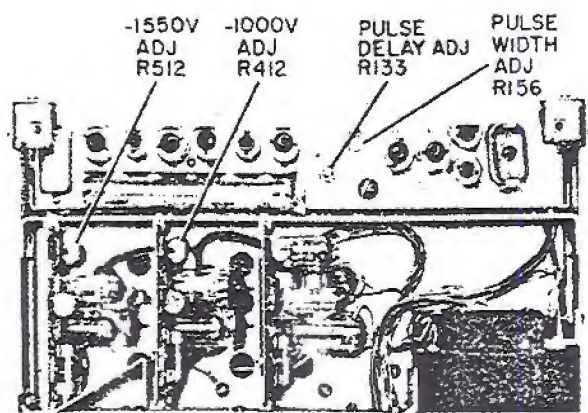

Figure 5-7. Location of Power Supply and Modulator Adjustments
e. Adjust potentiometer R412 (Figure 5-7) for  $-1000 \pm 20$  volts. Line voltage regulation ( $115 \text{ V} \pm 10\%$ ) should hold the  $-1000 \text{ V}$  supply to within  $\pm 5 \text{ V}$ ; ripple should be less than 10 mV, p-p. The  $-300 \text{ V}$  supply should track the  $-1000 \text{ V}$  supply to  $-300 \pm 10 \text{ V}$ . Line voltage regulation ( $115 \text{ V} \pm 10\%$ ) should hold the  $-300 \text{ V}$  supply to within  $\pm 5 \text{ V}$ ; ripple should be less than 10 mV, p-p.
g. Adjust potentiometer R512 (Figure 5-7) for  $-1550 \pm 20 \text{ V}$ . Line voltage regulation ( $115 \text{ V} \pm 10\%$ ) should hold the  $-1550 \text{ V}$  supply to within  $\pm 5 \text{ V}$ ; ripple should be less than 15 mV, p-p.
d. Adjust potentiometer R133 (Figure 5-7) to give a delay of 300  $\mu$ s as measured on the calibrated Oscilloscope.
d. Adjust potentiometer R156 (Figure 5-7) so that width of pulse of 10  $\mu$ s as measured on the Oscilloscope.